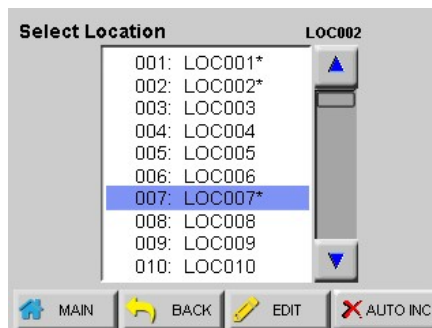

Figure 5-54 LOCATION Setup Screen
Press the LOC button on the CONFIG screen to display the Select Location screen as shown in Figure 5-54.
- When enabled, the AUTO INC option automatically selects the next location after completing the current location's number of cycles. After initial power up, the default is AUTO INC OFF, as shown in Figure 5-54.